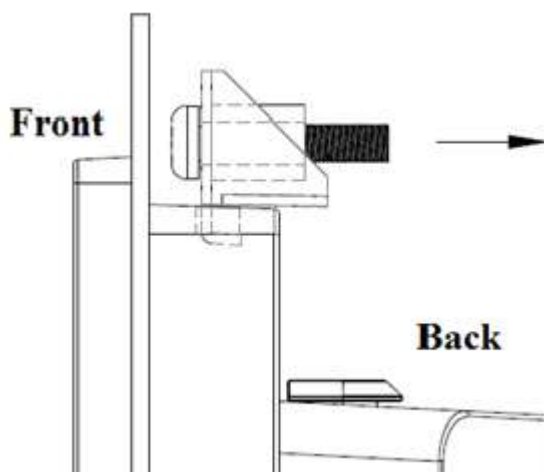

Figure 2.30 Hook brackets location
3. Insert the hook brackets into the holes following the direction of the arrows shown in Figure 2.30 and hang the panel PC.